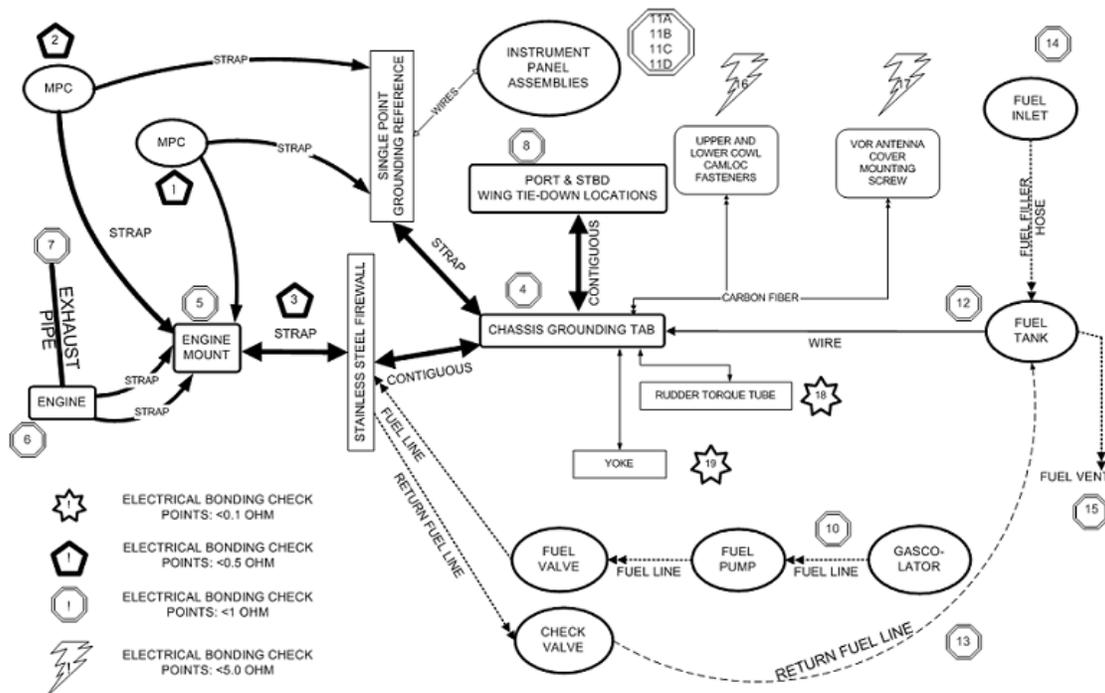

Figure 51-63 Diagram of the Ground Checkpoints for Testing
3. Refer to Figure 51-63 for Test points.